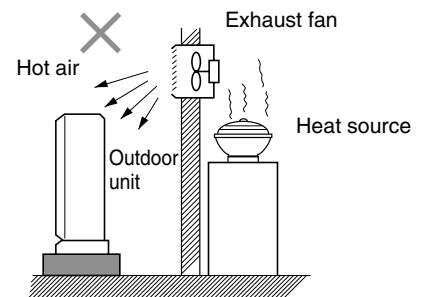

Fig. 2-8
- heat sources, exhaust fans, etc. (Fig. 2-8)